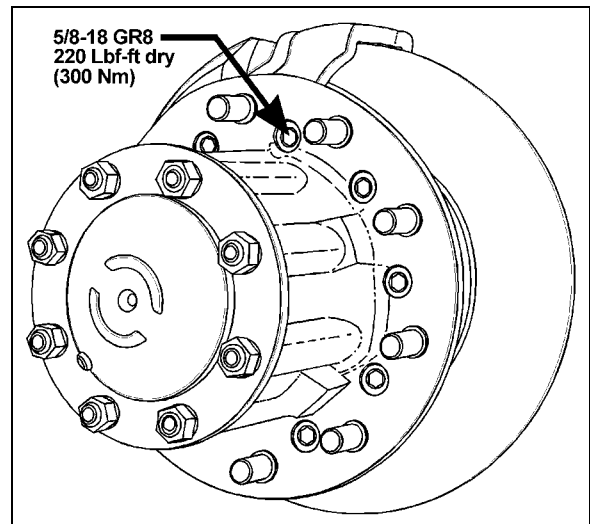

FIGURE 10: TORQUE SPECIFICATION 11030
3. Install jacks under tag axle jacking points to support the axle weight (refer to figure 10).